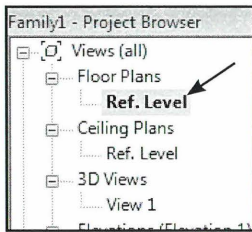

Fig. 04.42. Ref. Level.
- Stå i *Floor Plans* - *Ref. Level* (Fig. 04.42).